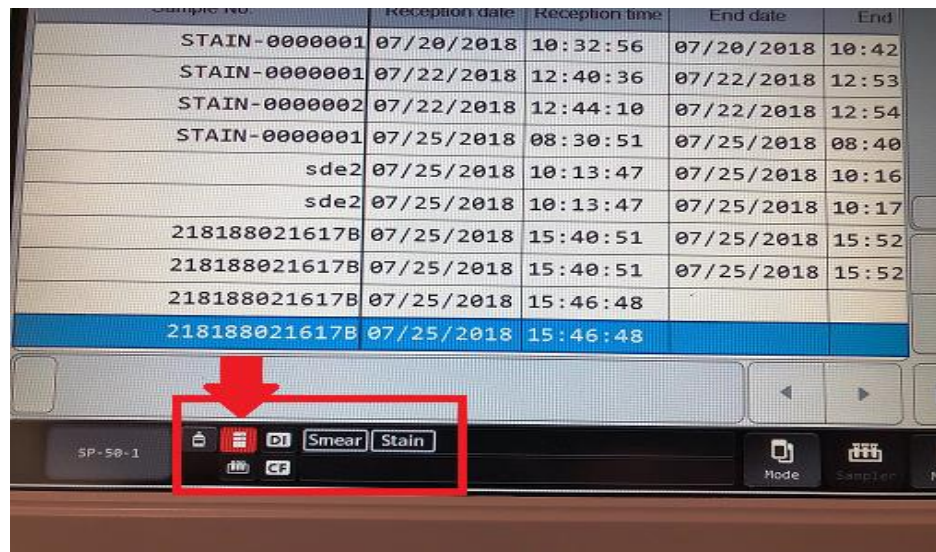

Figure 10: Sp-50 Communication Error Screen
2. Connection for the SP-50 Slidemaker will be lost also. It will be indicated by the red background of the PC icon. (See Fig. 10 below)